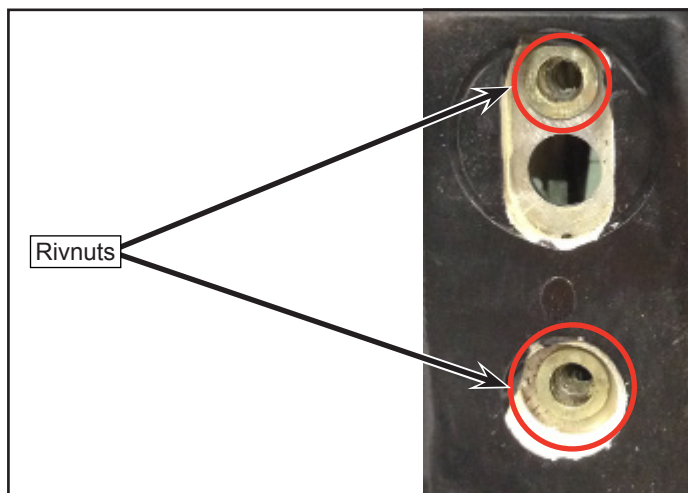

Figure 5 - Location of Rivnuts
- 1.6. Remove rivnuts and discard (see Figure 5).